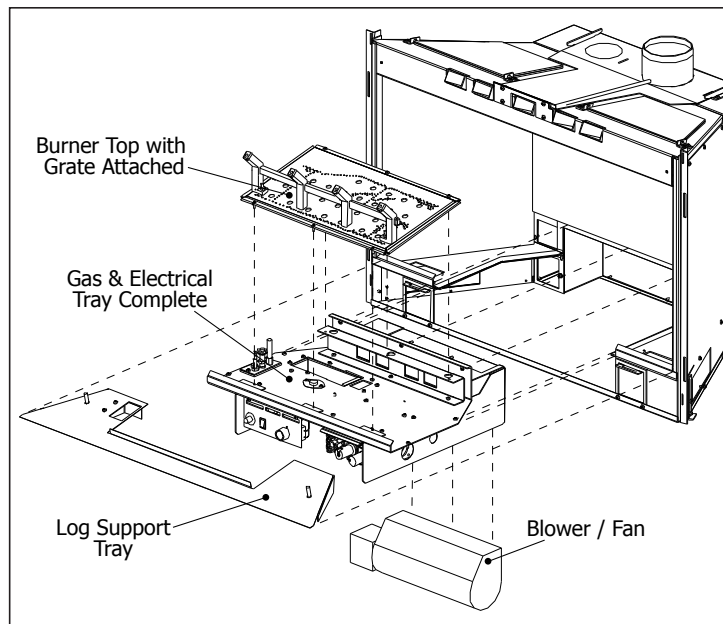

Figure 10: Removing burner and gas tray.
6. Remove the three (3) T-20 screws just above the burner top on the back firewall (see Figure 10) and the two (2) screws on each side below the burner top. Carefully remove the complete gas and electrical tray assembly from the firebox, ensuring that no wires or gas lines are damaged.